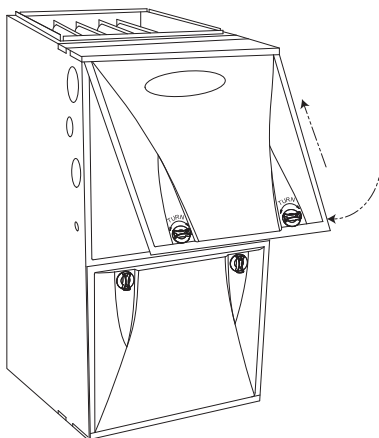

Fig. 13 - Furnace Door Replaced (Upflow Configuration)
7. Replace main furnace door. See Fig. 13.
6. Replace main furnace door. See Fig. 13.